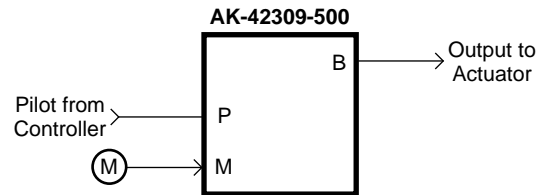

Figure-1 Piping Connections.
**Air Connection Code:** See Figure-1.